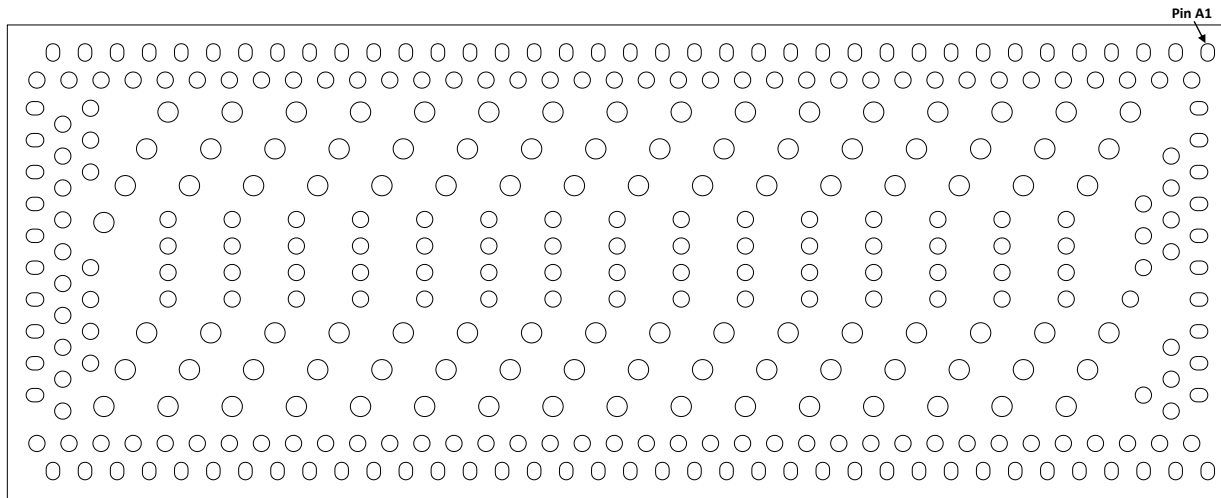

Figure 5-2: Package Land Pattern
Figure 5-2 shows the top view of the platform-side land pattern for the PT5161L.
Asteralabs recommends keeping the solder paste aperture the same size as the land pads, shown in Figure 5-2 and using metal-defined (MD) pads rather than solder-mask-defined (SMD) pads.